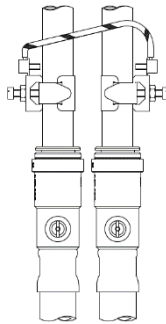

Figure 12 Earth continuity connections
- **Adjacent pipes:** Adjacent suction and delivery pipes should be fitted with earthing clamps and connected with earthing wire size 4 mm² (Figure 12).